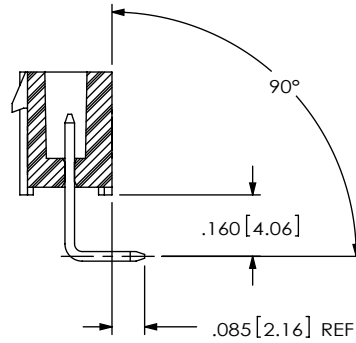

FIG 4
-K: KEYED POLARIZATION (USE IPL1-XX-S-K) (SEE FIG 4, SHEET 3) (LEAVE BLANK FOR NO POLARIZATION, SAMTEC WILL ONLY SUPPORT EXISTING BUSINESS AS OF REV J)